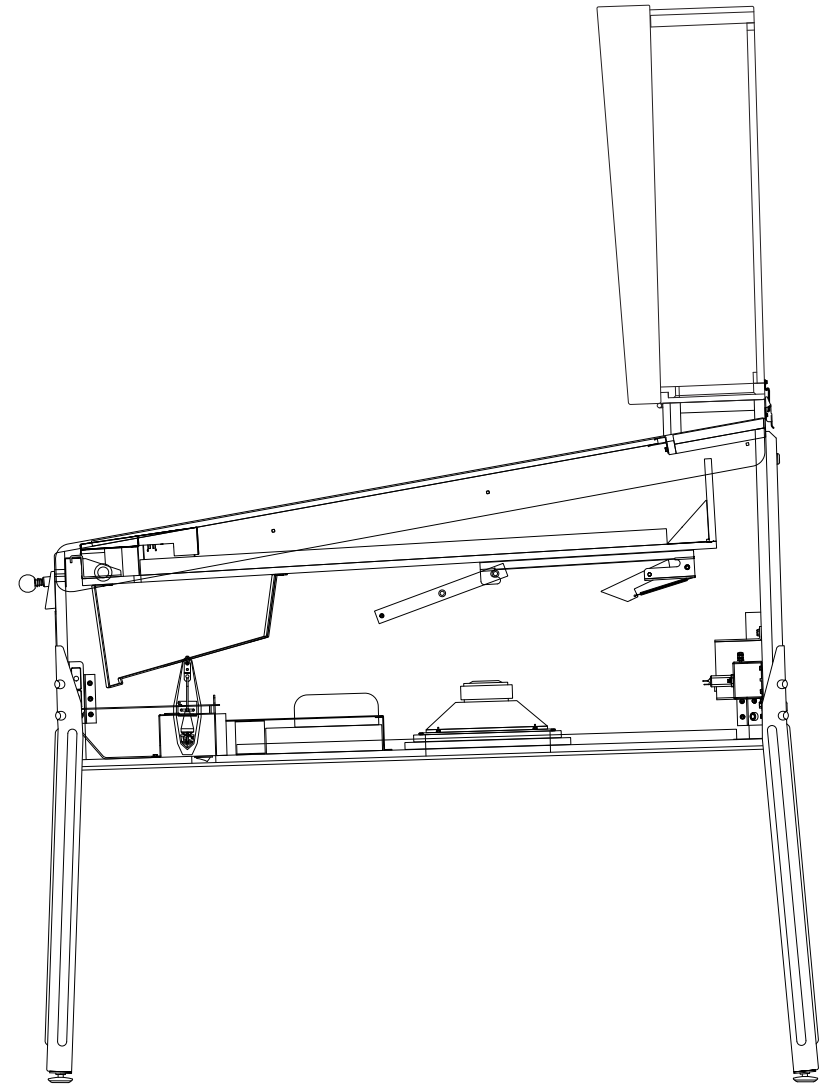

Figure 1-12. Playfield in the cabinet, ready to play.
14) Your Pulp Fiction playfield is designed to rest in four distinct positions in its cabinet for game play, cleaning and/or maintenance. Figure 1-12 shows the playfield in its primary position, ready to play.